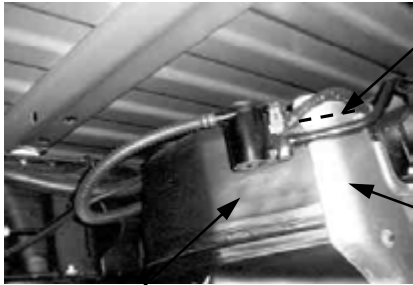

Figure 3
3. Cut the heat shield on the gas tank or bend the top edge down about 1" down to make room for the hitch (see Figure 3).